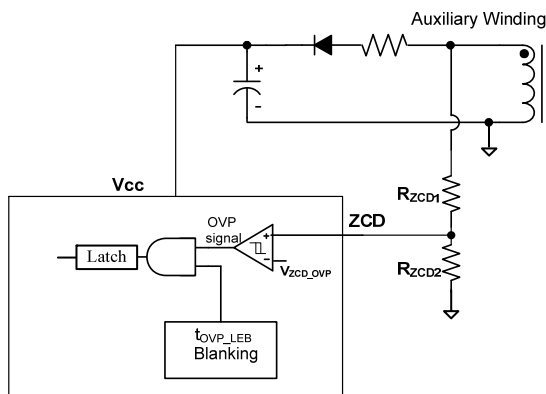

Figure 7—OVP sampling circuit
Output over-voltage protection (OVP) prevents the components from over-voltage damage. The voltage of the auxiliary winding positive plateau is proportional to the output voltage, so the OVP block monitors this auxiliary winding voltage to apply an OVP function (see Figure 7). Once ZCD voltage exceeds V_{ZCD_OVP} , the OVP signal is triggered, the gate driver turns off, and the IC works in quiescent current mode. When the VCC voltage drops below the UVLO threshold, the IC shuts down and re-starts after VCC drops below UVLO. The output OVP set point is calculated with Equation (2):